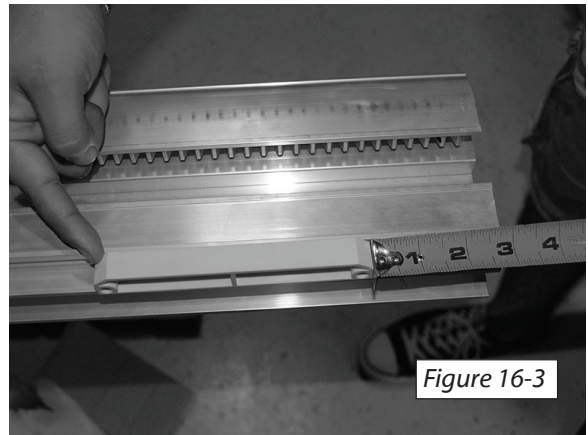

Figure 16-3
9. Position the end of the cam at 1-3/4" within the end of the rail. Secure the limit cams with (2) 10-24 screws and square nuts (provided). [Figure 16-3]